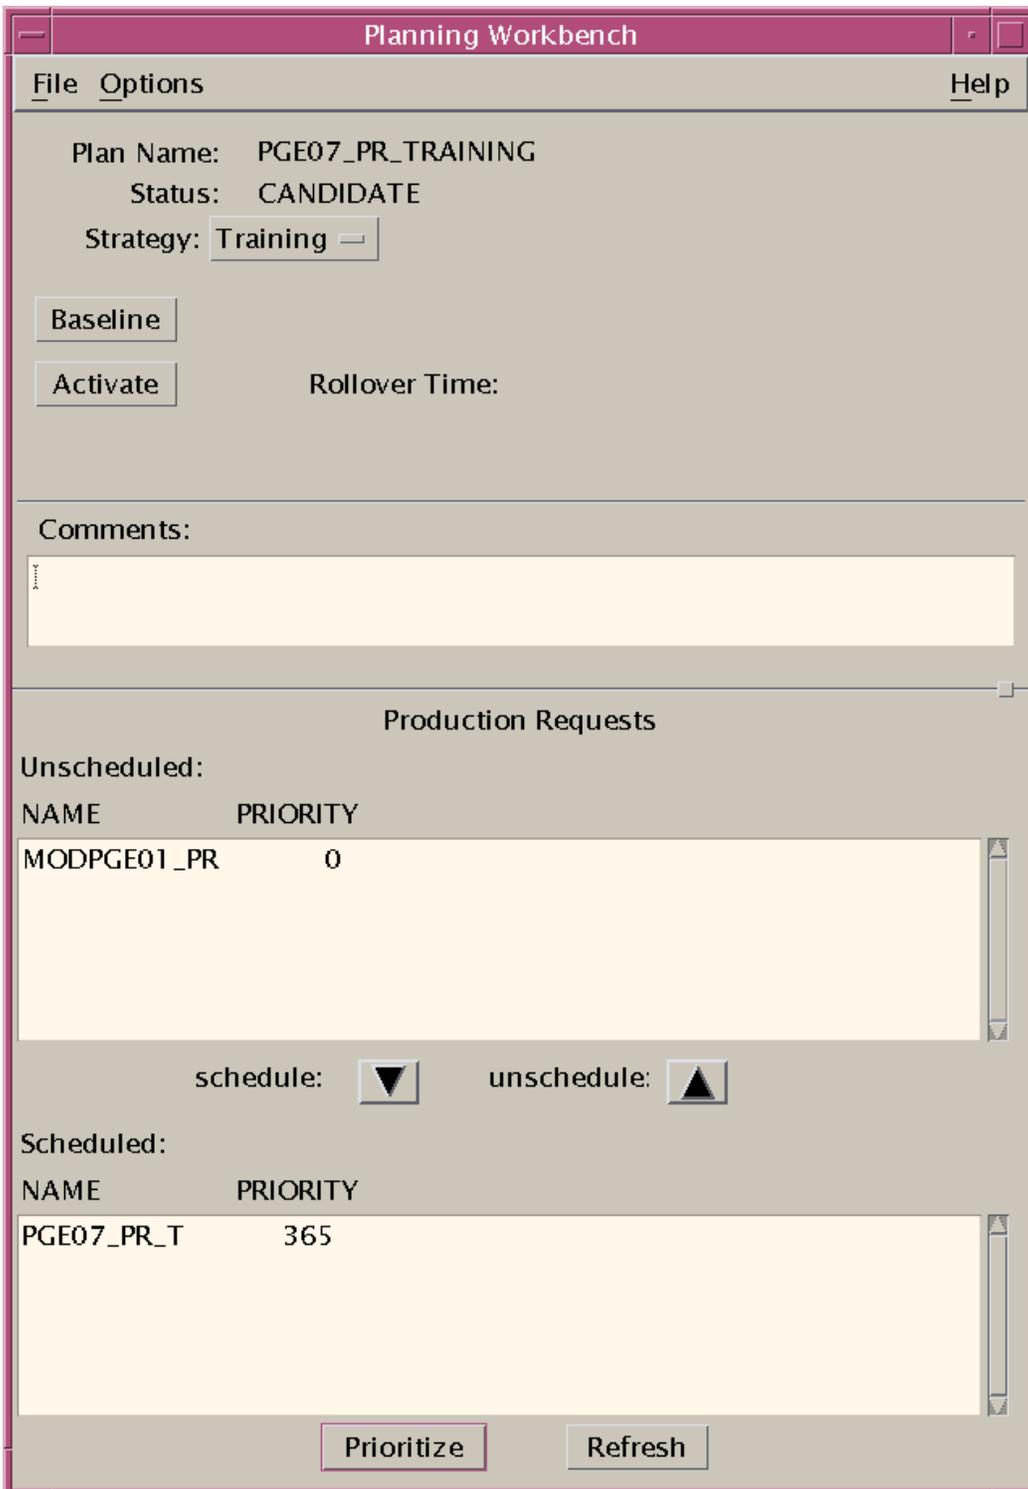
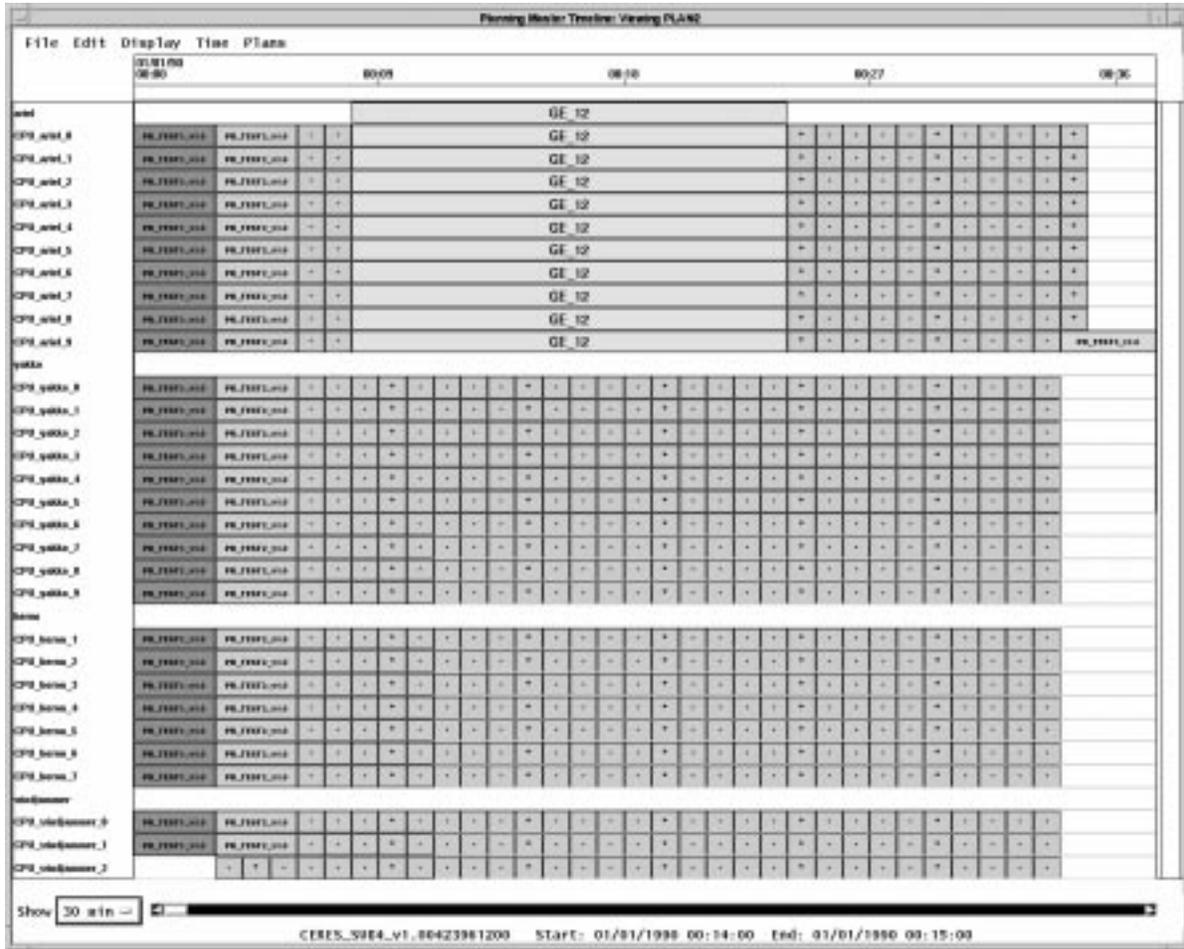

Figure 29. Planning Workbench GUI
Figure 30. Production Planning Timeline GUI
- Eventually, the **Planning Workbench** GUI (Figure 29) is displayed. Then the **Production Planning Timeline** GUI (Figure 30) is displayed.